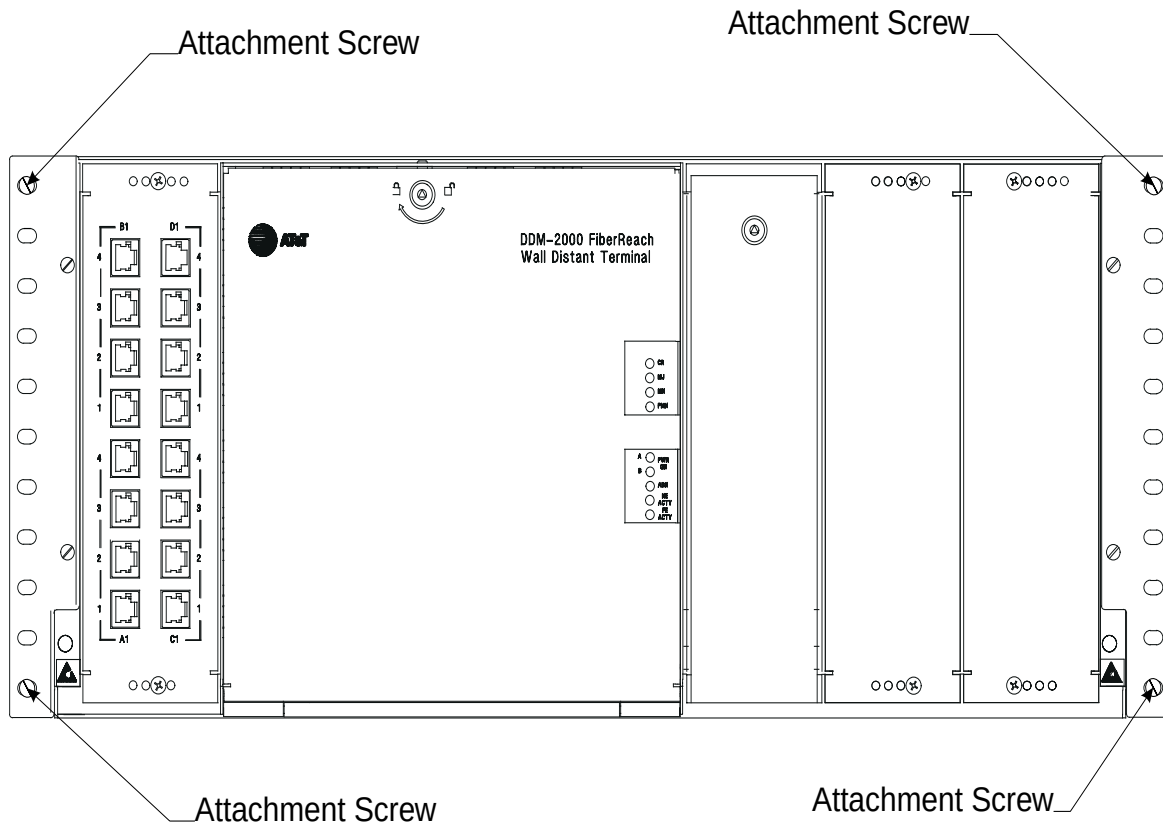

Figure 1 – Wall DT Cabinet — Front View
1. Remove the four attachment screws from the front of the Wall DT as show in Figure 1.